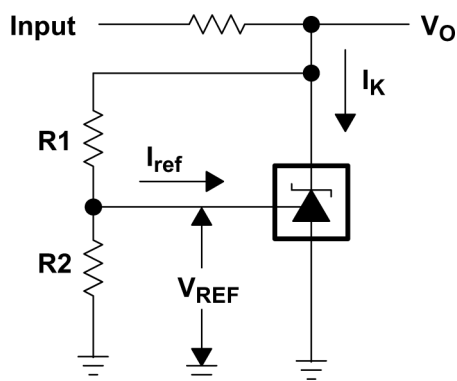

Figure 6-2. Test Circuit for $v_{KA} > V_{REF}$, $V_O = V_{KA} = V_{REF} \times (1 + R1/R2) + I_{ref} \times R1$
(3) The dynamic impedance is defined as $|z_{KA}| = \frac{\Delta V_{KA}}{\Delta I_K}$. When the device is operating with two external resistors (see Figure 6-2), the
- (3) Full temperature ranges are -40°C to 125°C for TLV431Q, -40°C to 85°C for TLV431I, and 0°C to 70°C for TLV431C.
- (4) dynamic impedance is defined as $|z_{ka}| = \frac{\Delta V_{KA}}{\Delta I_K}$. When the device is operating with two external resistors (see Figure 6-2), the total